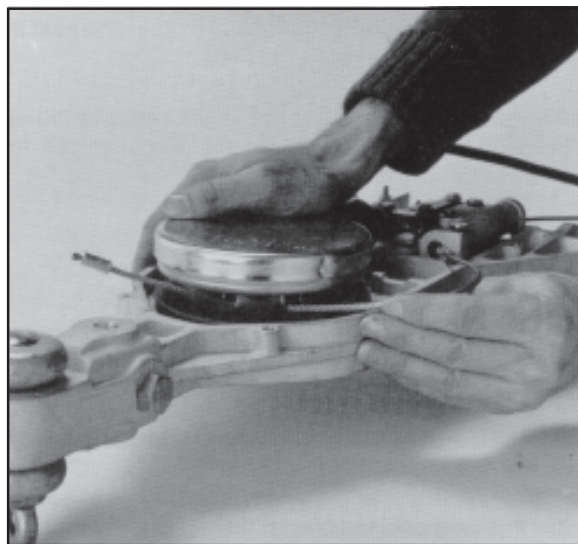

Fig. 27: Fish the trip line out.
8) Fish the trip line out through the small hole to the left of the center hole with needle nose pliers. See Fig. 27.